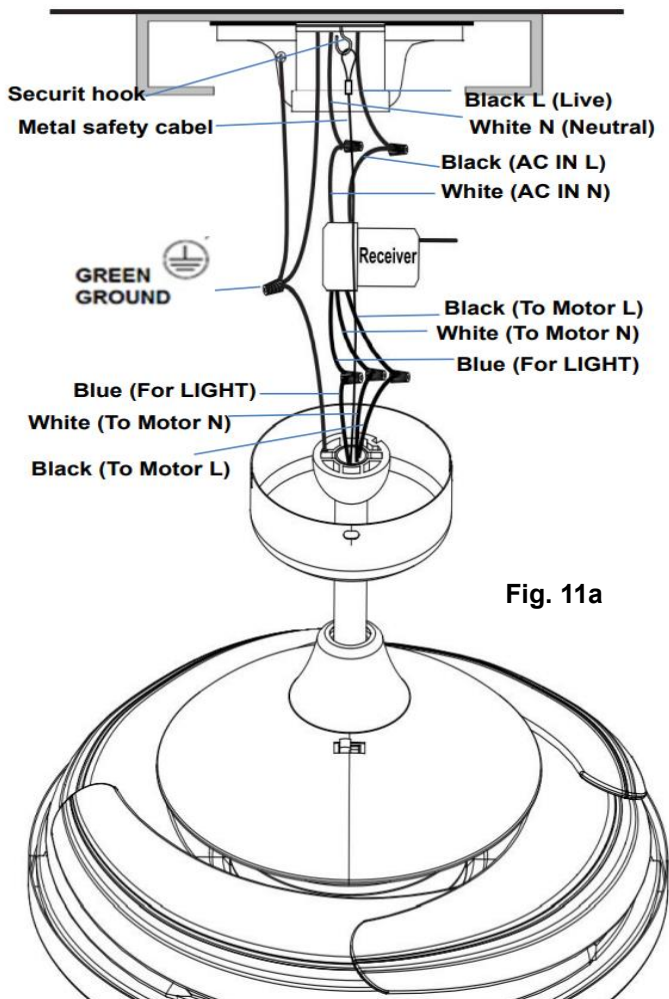
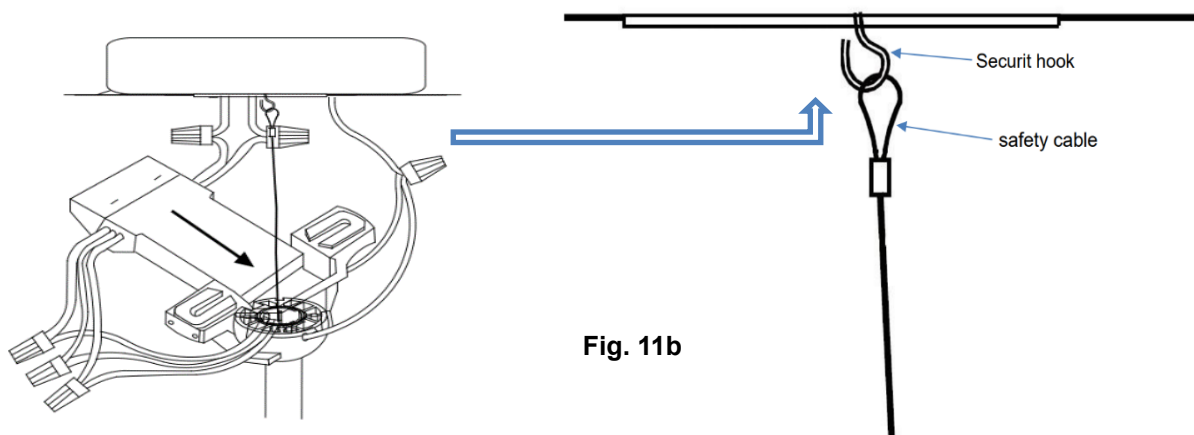

Fig. 11a
Fig. 11b
7. Pull the metal safety cable on the security hook, tight the safety cable (Fig.11a & Fig.11b).